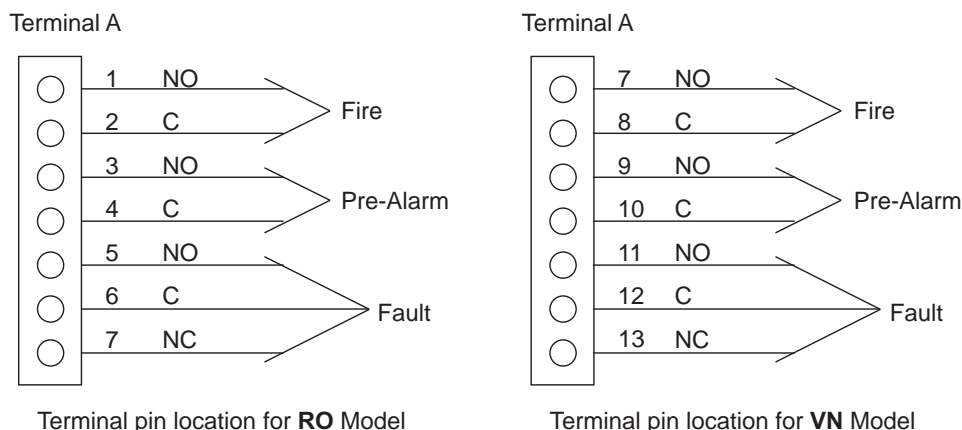

Figure 6-11: Wire Connections Details for Relays
- Connect the relay wires to the terminals as per Figure 6-11 and your site requirements.